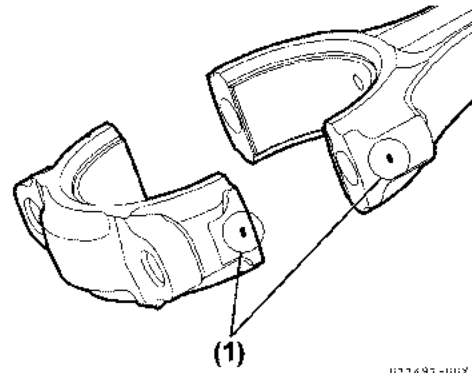

**Figure 5-99**
3. Remove the connecting rod and measure the plastic gauge with measuring paper (Figure 5-99).